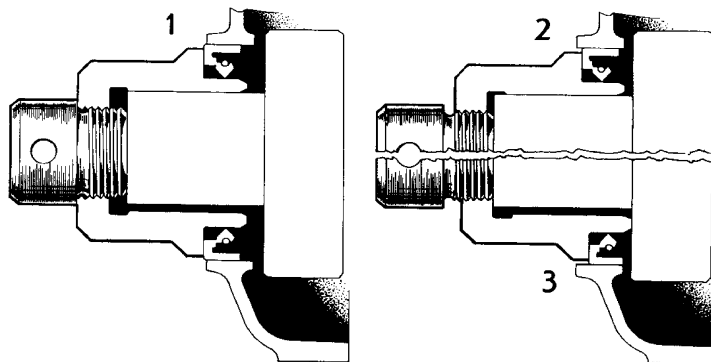

Fig. C8. Centre spindle position on SVO 2816 (6-cyl. engine)
3. Press in the sealing ring with tool SVO 2817. The sealing ring can be fitted in three positions with SVO 2817, compare with Fig. C8. With a crankshaft that is new or which has an approved wear surface, fit the seal in its outer position (centre bolt screwed in fully). With the wear mark on the crankshaft, fit the crankshaft with the centre bolt screwed out a couple of turns or completely.
N. B. First inspect the wear surface of the polygon hub. The sealing ring can be fitted in three positions with SVO 2816. With a new polygon hub, the centre bolt of the tool should be screwed fully in, see Fig. C8. In this position, the seal will be fitted in its outer position (position 1). With a wear mark on the polygon hub, fit the seal in position 2 (1 1/4 turns of centre bolt screwed out). With two wear marks, fit the seal in position 3 (centre bolt fully screwed out). With three wear marks, the polygon hub should be replaced by a new one. Lubricate the sealing lip on the new seal and fit it with drift SVO 2816.